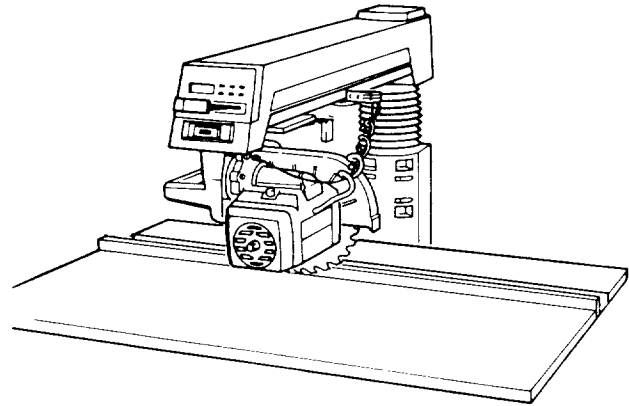

Fig. 91 - In-rip Position
3. Make sure that the lower edge of the *guard* is parallel to the table. (Figure 91)
5. Unlock the *swivel lock* and turn the *motor* to the in-rip position, with the *blade* between the *motor* and the *fence*. (Figure 91)